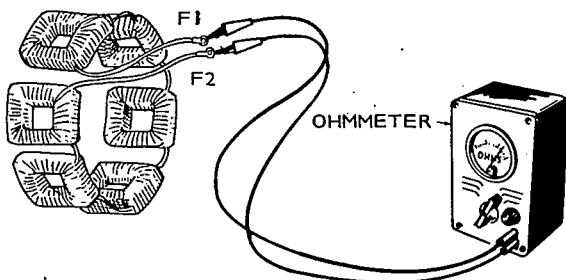

FIGURE 9. MEASURING FIELD RESISTANCE
**Testing winding resistance:** Measure coil resistance between leads F1 and F2 with an ohmmeter (scale R x 1). Resistance should be 14.85 to 18.15 ohms at 20° C (68° F). See Figure 9.